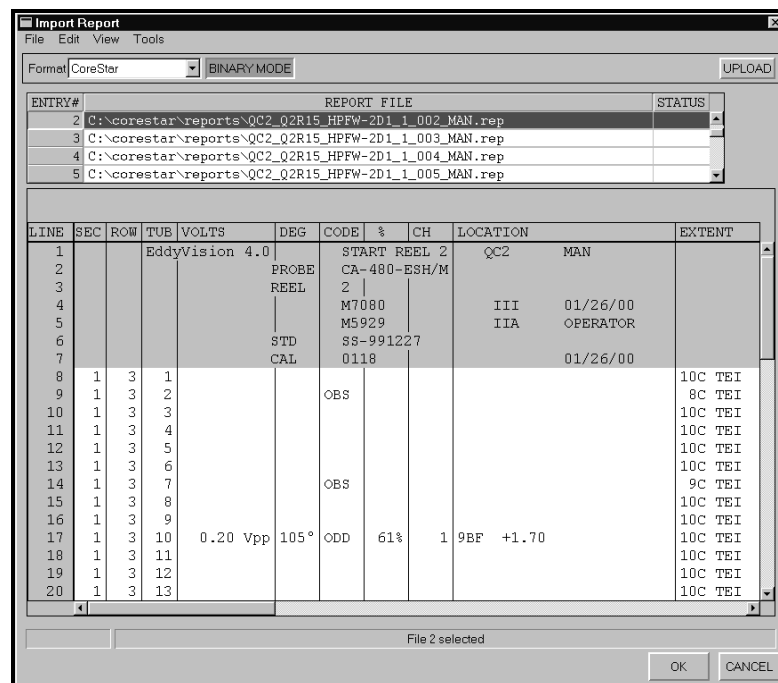

Figure 5-4. Import Report Window
11. Find the reports called QC2\_Q2R15\_HPFW\_2D1\_1\_#\_MAN. Select the first report and then holding down the **Shift** key select the last report. All the reports labeled QC2 should be selected. **Click Open**. Now the reports should be listed in the **Report Path Display** as in Figure 5-4.